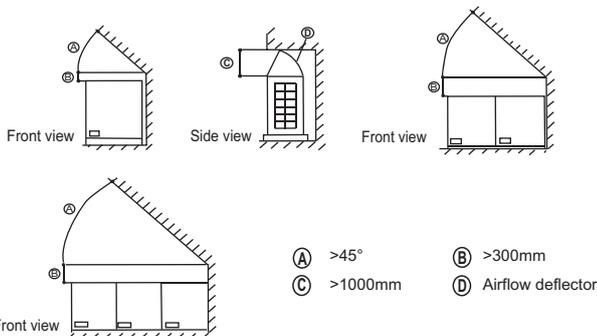

Fig.4-14
- In case any obstacles exist above the outdoor unit, refer to Fig. 4-14.